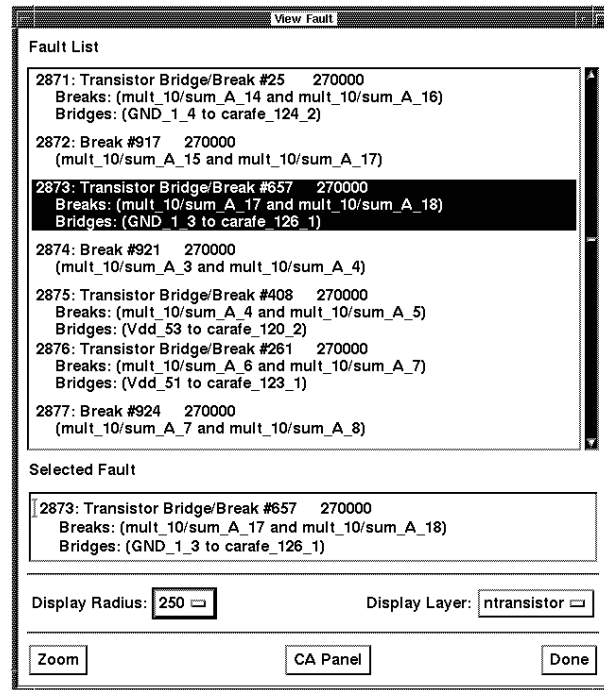
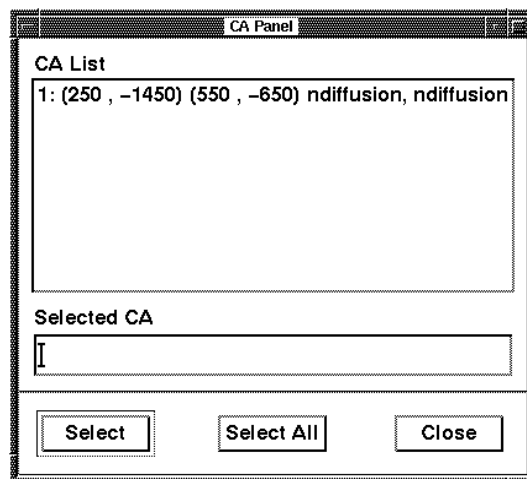

Figure 9.9: Faults Window
Figure 9.10: CA Panel
**Faults** After the faults have been extracted from a circuit this command can be used to display the faults extracted. A window pops up listing the faults along with their likelihood. The user may select faults and zoom in to their location in the layout for closer inspection. The user may also view the critical areas by defect radius and layer. Figure 9.9 shows the window for the **Faults** menu item. Pressing on the **CA Panel** button when a fault is selected will bring up another window shown in Figure 9.10. This window shows the individual rectangles that form the critical area for a fault. (I use it often.)